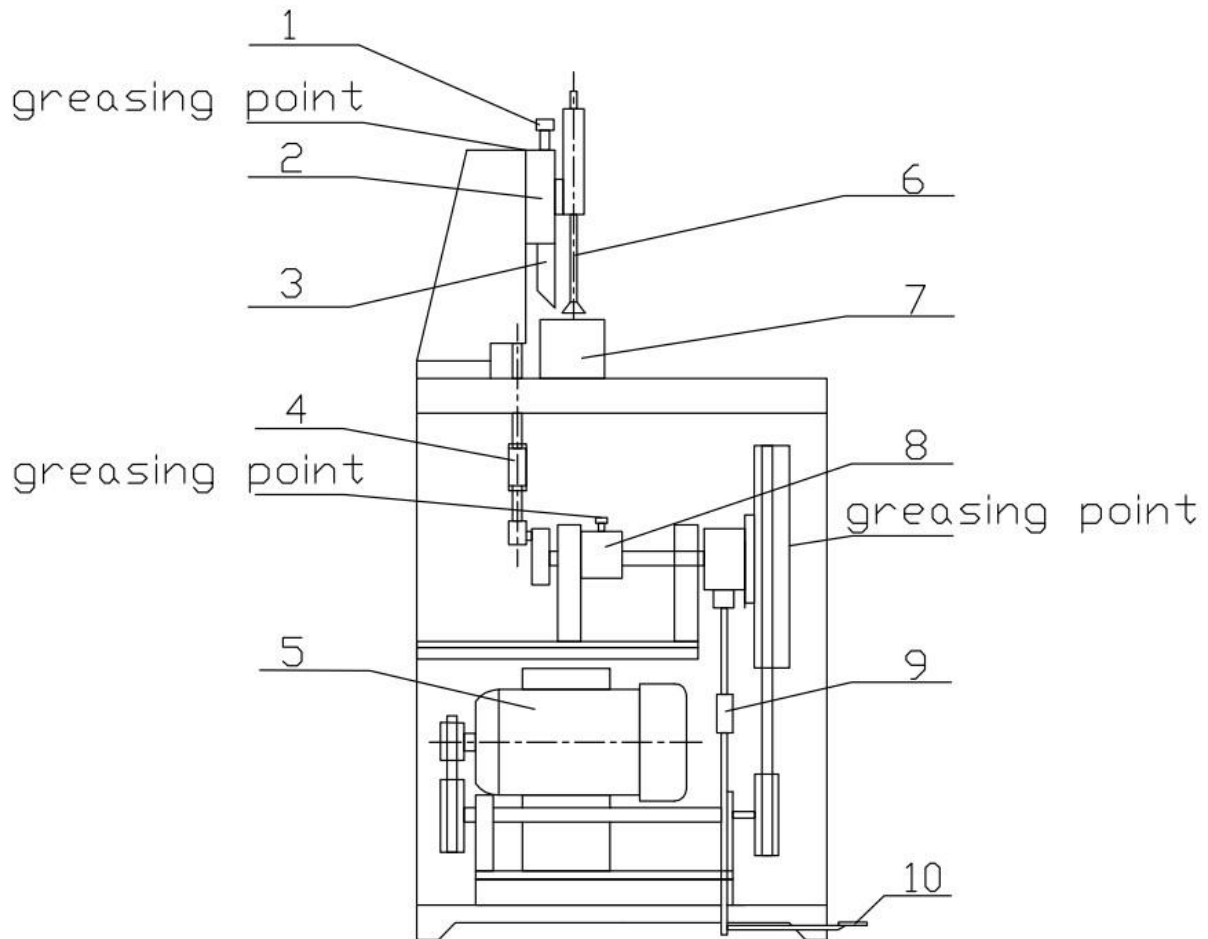

Figure 1
Electric Corner Cutter S-700 is driven through electric power and triggered through clutch. It is used for cutting rounded corner for paper, PVC etc. It can cut various specifications of rounded corner. It is characterized by sense in control, ease of operation and maintenance. It is ideal equipment for the packaging industry. (Structure refers to Figure 1)
3.2 Add some machine grease to the lubricating parts of machine referring to Figure 1.
The adjustment for the upper blade is to adjust the top and bottom position for the upper blade. The round arc intaglio the of the upper blade should insert into the lower blade port at 1-2mm. Loose the three screws on right of the slide (See 2 of Figure1). Let the upper blade go up and down to be the proper position. After adjustment tighten the three screws.
4.2 You can adjust the locking screw upper the damper (No.8 in Figure 1) in order to have the main shaft keep balance in running and overcome the inheritance at stop for damper function. This screw can be adjusted for time but it shall not be too screw or tightened, or it will lock the main shaft, making it not to move.
The lubricating points are pointing out in Figure 1. It needs to add grease every week.